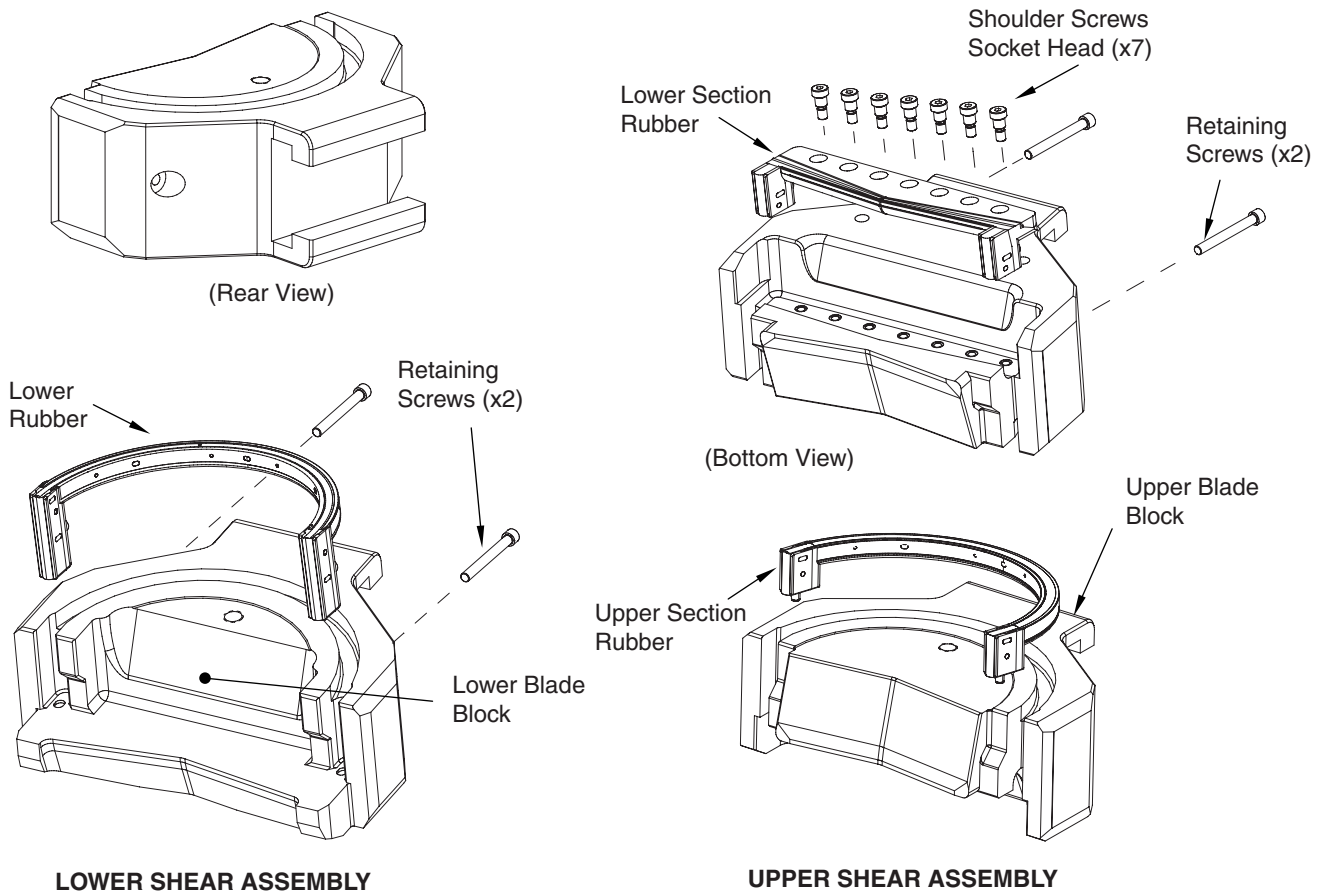

Figure 4-26. Shear Ram Assembly
3. Pry the upper and lower shear rubbers from the blocks (see Figure 4-26).
4. Flip the upper shear ram over and inspect the lower shear rubber. If damaged, replace it according to the steps listed below. (See Figure 4-26).
3. Install the new rubbers on the block as shown in Figure 4-26 using a rubber mallet to seat the rubbers in the grooves.
4. Install the retracting screws and torque (see Figure 4-26).